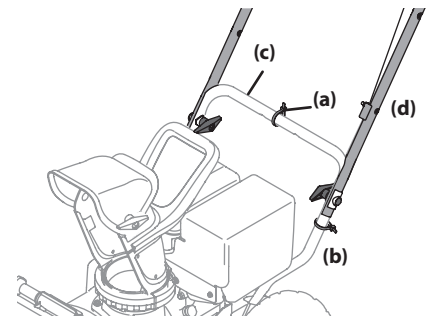

Figure 2-8
- Slide one of the loosely fitted cable ties (a) from the right side of the lower handle (b) up to the cross member of the lower handle (c). Leave the second cable tie in place on the right side of the lower handle (b). See Figure 2-8.
- Lift the upper handle (d) up and position it over the lower handle (b), aligning the holes where the wing knobs were removed. See Figure 2-8.